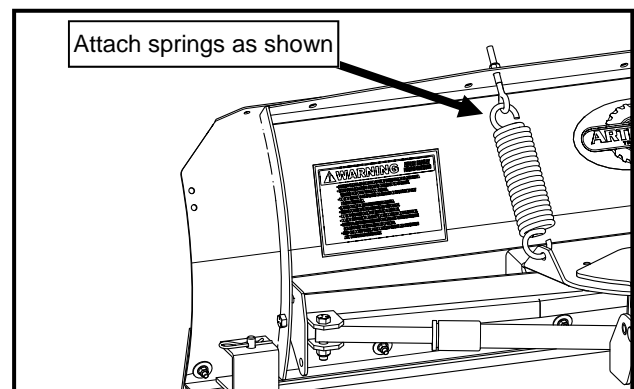

Fig. 2.1—Trip Spring Installation
**2.1** Locate the two trip springs, two eye bolts, two 3/8-16 Nylon lock hex nuts, and two 3/8" washers. Per Fig 2.1, hook one end of the trip spring through the lower trip spring mount. Hook the eyebolt on the other end of the spring and insert the threaded section up through the hole in the upper spring mount. Install a 3/8" washer, then a 3/8" Nylon lock hex nut on the eyebolt. Repeat above for the second trip spring.